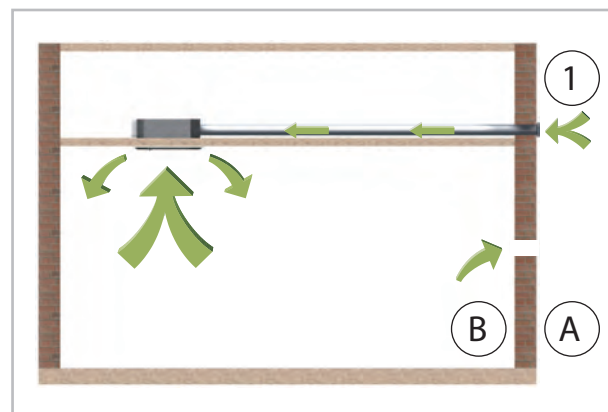

Fig. 42: Fresh air connection
- Fit a collar with a nominal diameter of 100 mm to the fresh air connection (Fig. 42).